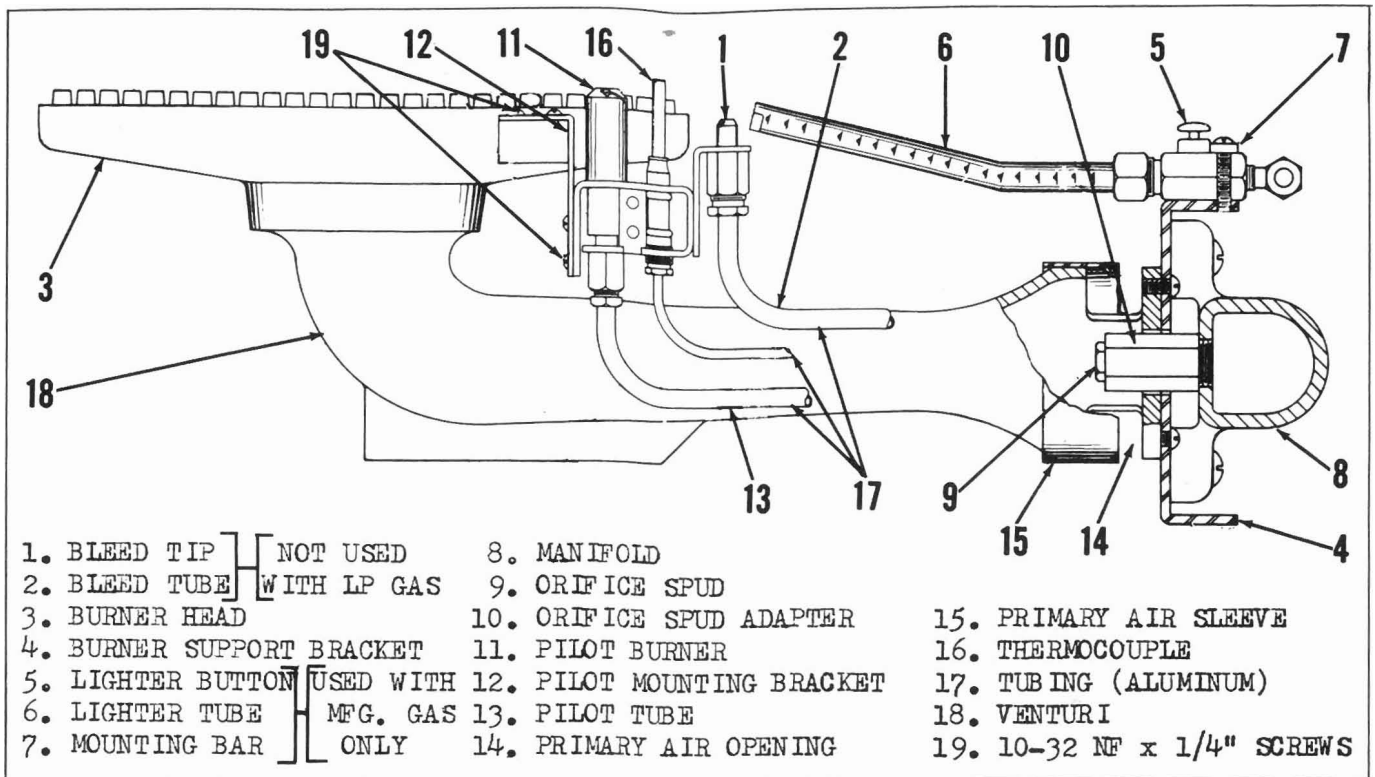

Figure 6. Gas Burner Assembly - Side View
9. Slip primary air sleeve bands over bell end of gas burner venturi castings. Clamp shutter bands to venturi castings with No. 10-24 screws and nuts provided leaving at least one-half of the primary air opening uncovered (see figure 6).
10. Attach gas burner venturi castings to the burner bracket with four 1/4" x 3/8" steel round head screws provided (see figure 6).
11. Check pilot orifice drill size (see Section E), Attach pilot bracket to one of the gas burner heads with two No. 10-32 x 1/4" screws. Then attach pilot to bracket with two No. 10-32 x 1/4" screws. (See figure 6.)
14. Next attach one end of a length of 1/4" aluminum tubing to the bottom of the pilot burner by means of compression nut and sleeve. Then attach end of another length of 1/4" aluminum tubing to the bleed burner tip by means of compression nut and sleeve. Bend both tubes into proper position along venturi casting as shown by Figure 6. Bleed tip not used on L.P. Gas.
18. Clamp lighter tube to burner bracket by means of small steel strap and two 10-24 x 7/8" steel screws. Push button should be on top (see figure 6).